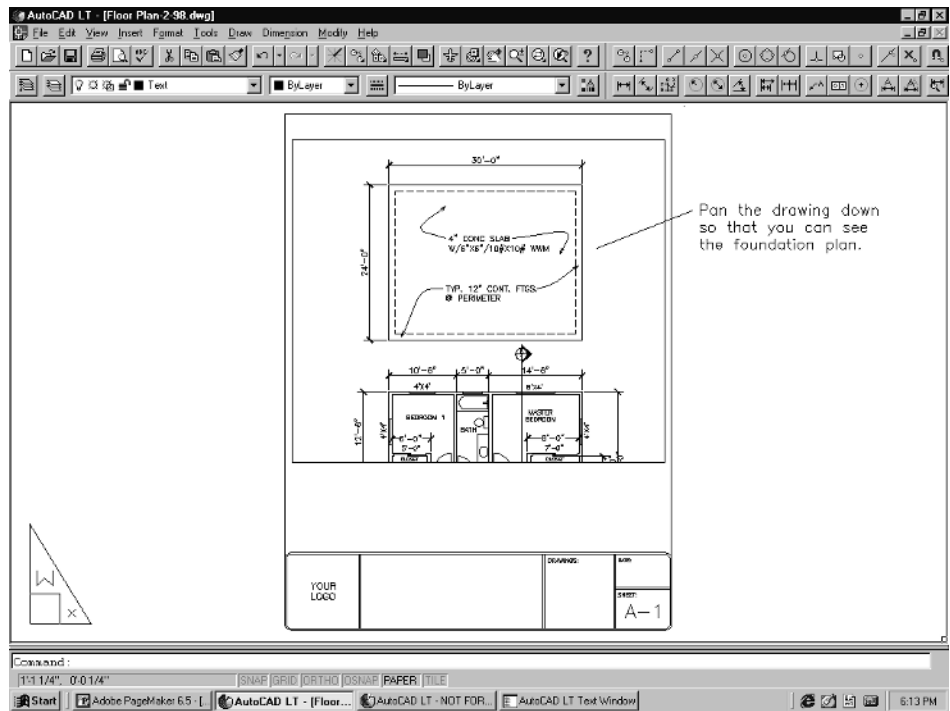

Figure 3-35
1. First, pick on the **PAPER** button on the status bar at the bottom of the screen. It will change to **MODEL**. Pick the **Pan** button and pan the drawing down so that you can see the foundation plan, as in Figure 3-35. Do not zoom while in floating model space or you will have to rescale the viewport. This is not that difficult to do, but for now, just use the Pan command to move the drawing around in the viewport.